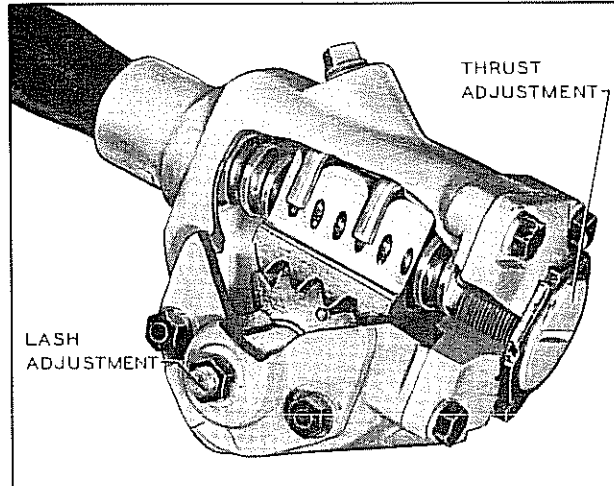

Figure 16. Steering Gear Adjustment
- e. Loosen Lock Nut on Pitman Arm Shaft Lash Adjuster and turn adjuster counterclockwise several turns, see figure 16.
Lash Adjustment: Refer to Figure 16 and proceed as follows: